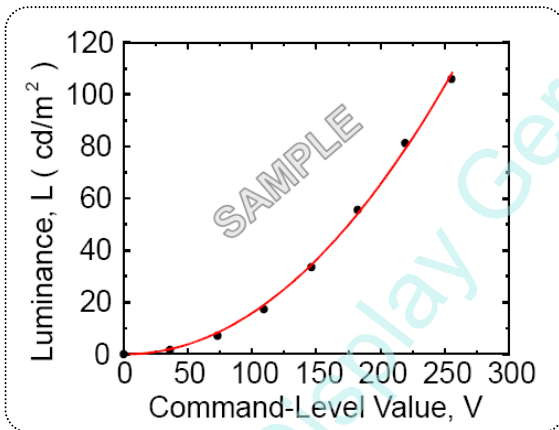
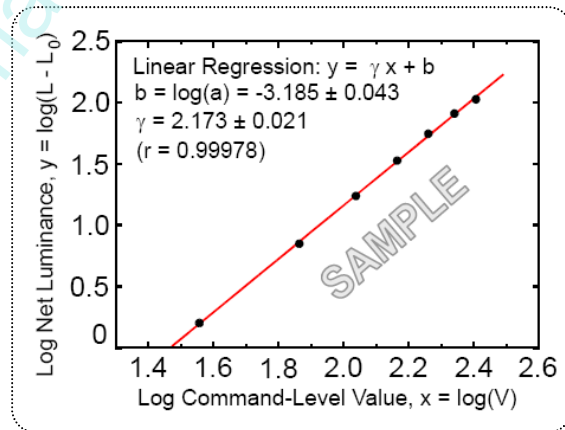

FIG.11 Sample Luminance vs. gray scale (using a 256 bit gray scale)
FIG.12 Sample Log-log plot of luminance vs. gray scale
7. **GSR** is the rate of gamma shift at up, down, left and right 60 degree viewing angle compare with center gamma. For more information see FIG.11 and FIG.12 **(By EZ Contrast)**
Here the Parameter a and γ relate the signal level V to the luminance L. The GAMMA we calculate from the log-log representation (FIG.11)